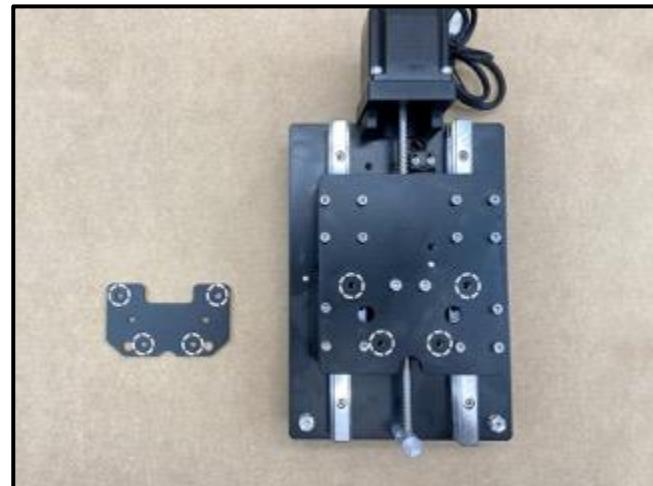

Figure 3-9
Of the four (4) mounting holes that fix the tramming plate to the Z-Plus (see *Figure 3-9*) one is 0.75mm smaller than the other three. The smallest hole is a fixed point around which the plate can be adjusted by +/- 0.375mm left or right. This allows you to get the tramming plate and the router mount perfectly parallel with the X-Axis.